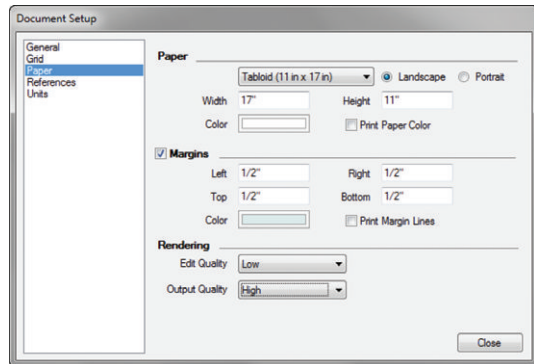

Figure 13.2 The Document Setup dialog, Paper tab
4. On the Paper tab (Figure 13.2), change the paper size to Tabloid and adjust the margins to 1/2".